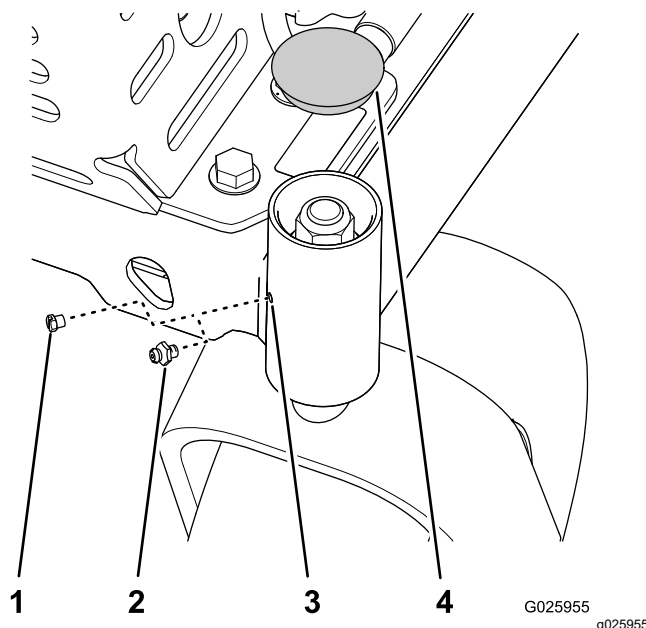

Figure 34
1. Remove cap and hex plug from the top of the caster pivot (Figure 34).
2. Thread grease fitting in hole (Figure 34).
3. Pump grease into the fitting until grease oozes out around top bearing (Figure 34).
4. Remove grease fitting and install the plug that you removed in 1 (Figure 34).
5. Install the cap that you removed in step 1 (Figure 34).